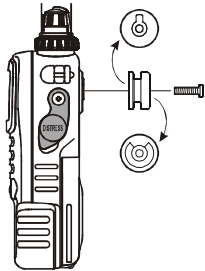

Figure 1
1. Connect the hanger to the rear of the **HX471S**, with the notch pointing directly up, using the supplied screw (Figure 1).